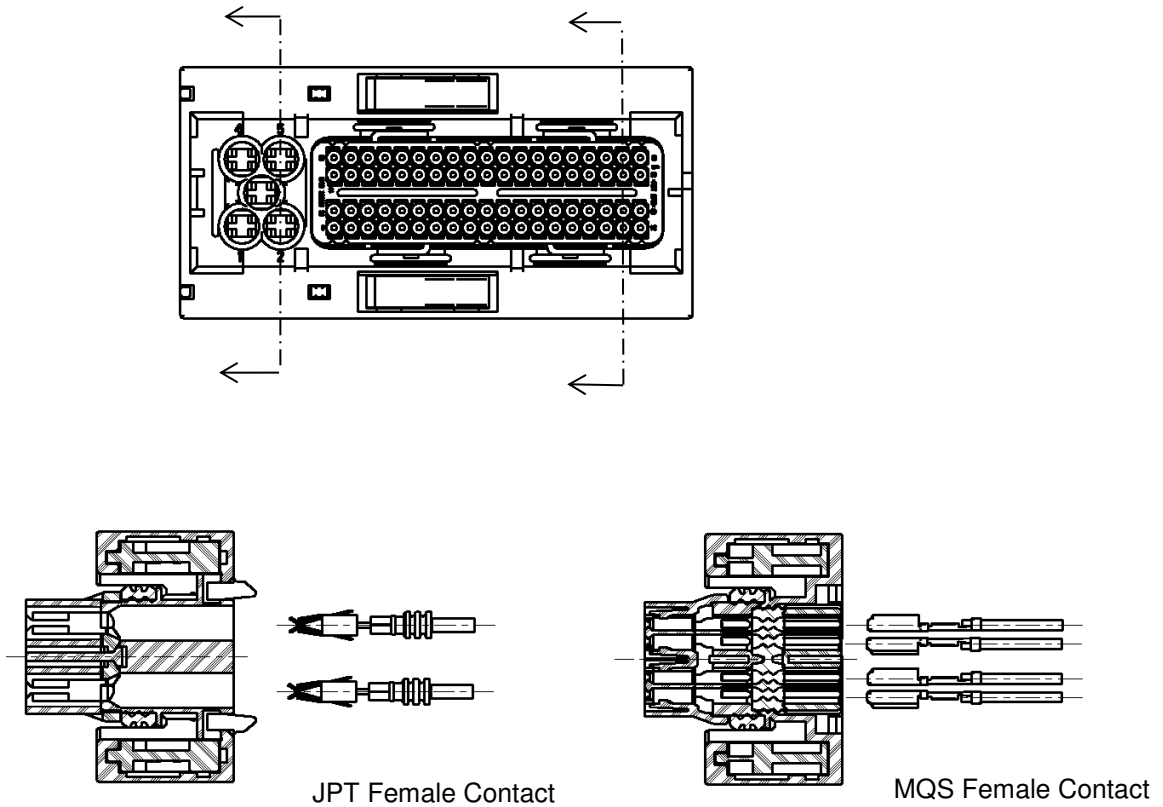

Fig. 9
- (2) Insert contacts into the each specific cavity with proper contact direction as shown in Fig. 9.